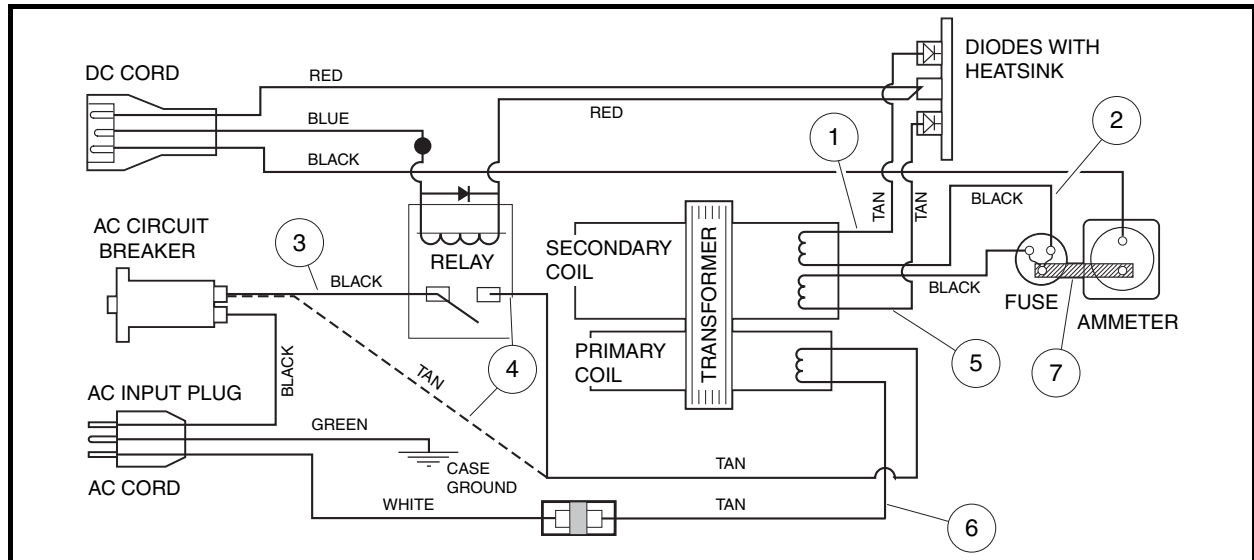

Figure 8-14 Transformer Test Wiring Diagram
- 5.2.1. To bypass the relay, remove the black wire (3) from the AC circuit breaker and disconnect the tan wire (4) from the relay. Connect the tan wire (4) to the AC circuit breaker (Figure 8-14, Page 8-19).
6. If the circuit is not complete, check the wiring of the AC cord, transformer primary coil wires, and internal AC circuit breaker (**Figure 8-14, Page 8-19**).
3. Disconnect transformer secondary coil wires (1 and 5) from the heatsink (**Figure 8-14, Page 8-19**).
- 4.1. To bypass the relay, remove the black wire (3) from the AC circuit breaker and disconnect the tan wire (4) from the relay. Connect the tan wire (4) to the AC circuit breaker (**Figure 8-14, Page 8-19**). **See following DANGER.**
9. Connect the AC cord to the wall outlet and monitor the multimeter for the secondary coil voltage. If measured voltage is approximately 85 volts AC or lower for the secondary coil, the transformer is shorted internally and must be replaced (**Figure 8-14, Page 8-19**).
The IQ Plus battery charger transformer has two sets of coils: a primary coil and a secondary coil **(Figure 8-14, Page 8-19)**.
3. Disconnect terminals from transformer (tan) primary coil transformer wires (4 and 6) **(Figure 8-14, Page 8-19)**.
3. Remove the transformer (tan) secondary coil wire (1) from the upper terminal of the heatsink **(Figure 8-14, Page 8-19)**.
4. Remove the other transformer (tan) secondary coil wire (5) from the bottom terminal of the heatsink and place the continuity test clip on the ammeter buss bar (7) **(Figure 8-14, Page 8-19)**. Test for continuity between the buss bar and each of the secondary coil wires (tan). The tester should indicate continuity between the buss bar and both of the secondary coil wires. If tester does not indicate continuity on both secondary coil wires, replace transformer. Ensure that the fuse is intact and not blown.
3. Remove black (3) and tan (4) wires from contact terminals of the relay (**Figure 8-14, Page 8-19**). Place continuity test probes on contact terminals of the relay. The tester should indicate no continuity. If tester indicates continuity, the relay contacts have failed closed and the relay must be replaced.